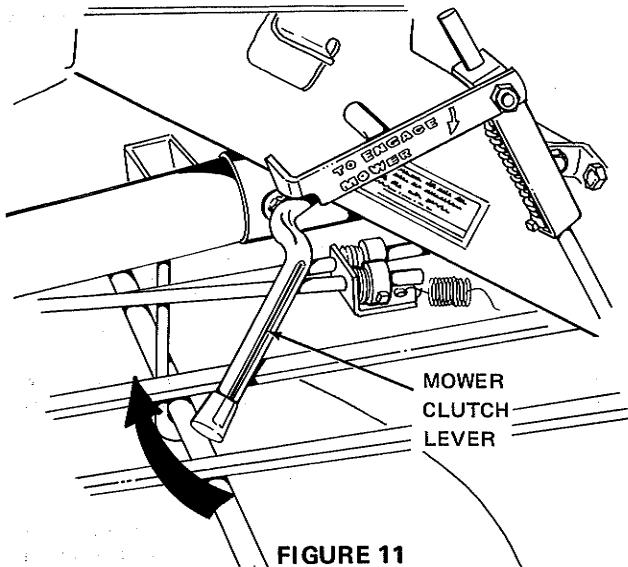

FIGURE 11
1. Engage the mower blade drive by pulling the clutch control lever UP. (Figure 11) The engine must be running at 3/4 to full throttle speed.
1. Rotate the blade by hand so that it is positioned with blade tips pointing to front and rear. Engage mower by pushing mower clutch lever up (Figure 11).